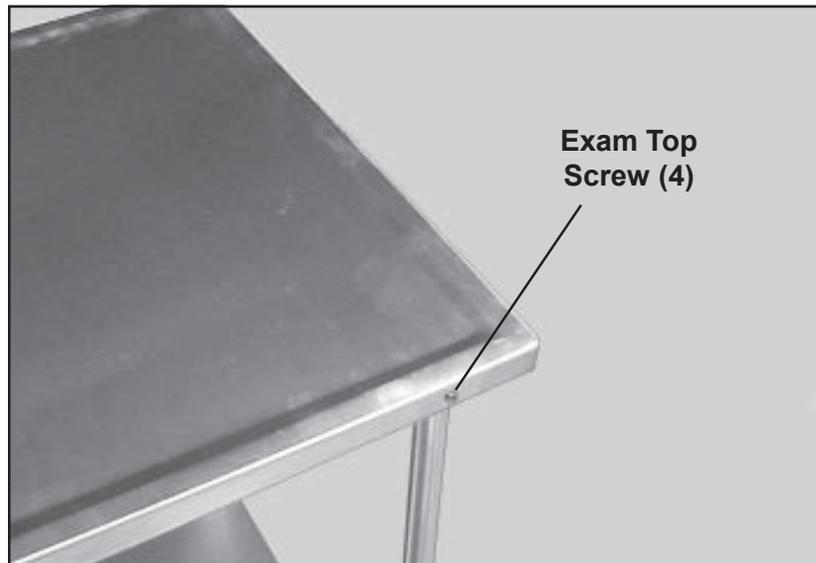

Figure 7. Exam Top Mounting Screw (2 each side)
2. With a Phillips screwdriver, remove the four screws near the ends of the cart long sides (Figure 7).